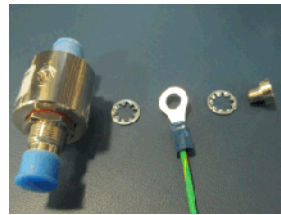

Figure 9 Connect Ground Wire to Surge Arrester
Step 14. Install the larger end of the green and yellow ground wire to the surge arrester. Use the existing screw with the surge arrester and the provided lock washers on both sides of the ring terminal. See *Figure 9*.